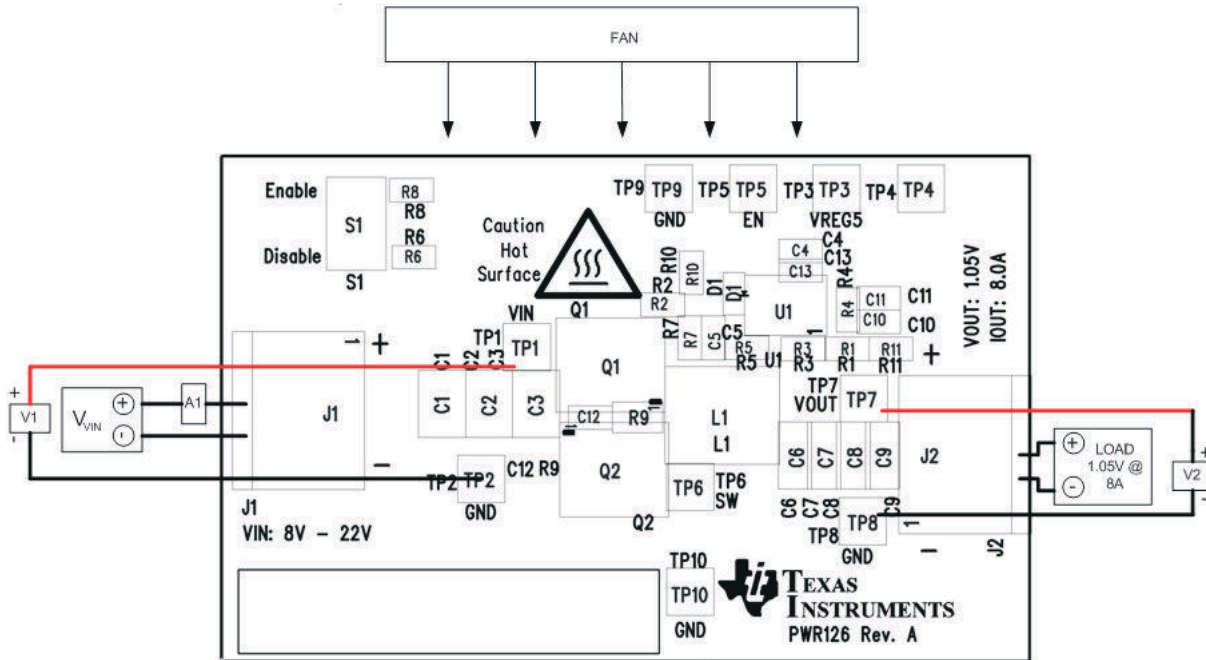

Figure 5-2. TPS53014EVM-126 Recommended Test Setup
- **VIN:** The input voltage source,  $V_{IN}$ , should be a 0-V to 30-V variable DC source capable of supplying 2  $A_{DC}$ . Connect  $V_{IN}$  to J1 as shown in Figure 5-2.
Figure 5-2 is the recommended test setup to evaluate the TPS53014EVM-126. Working at an ESD workstation, make sure that any wrist straps, bootstraps, or mats are connected referencing the user to earth ground before power is applied to the EVM.
- Prior to connecting the DC input source  $V_{IN}$ , it is advisable to limit the source current from  $V_{IN}$  to 2-A maximum. Make sure  $V_{IN}$  is initially set to 0 V and connected to J2 as shown in Figure 5-2.
**Other Connections:** Place a fan as shown in Figure 5-2 and turn on, making sure air is flowing across the EVM.
1. Set up the EVM as described in Section 5 and Figure 5-2.